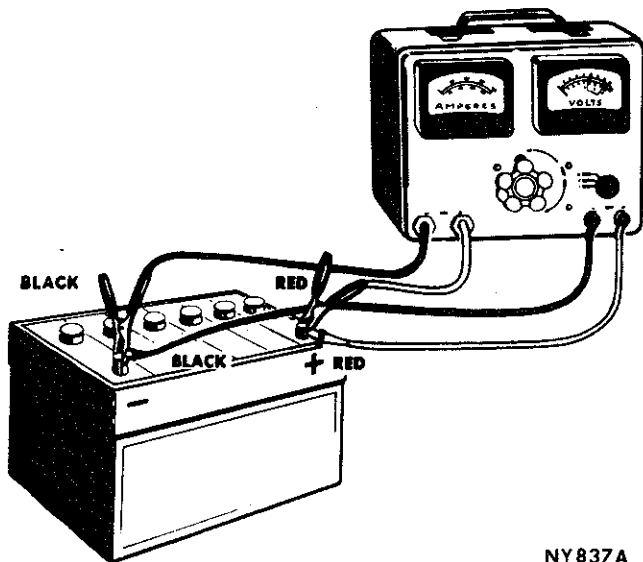

Fig. 4—High rate discharge test
(1) Turn control knob of Battery-Starter-Tester to **OFF** position.
(2) Turn Voltmeter Selector Switch to the **16 Volt** position on test units so equipped.
(3) Connect test ammeter and voltmeter positive leads to battery positive terminal. Connect ammeter and voltmeter negative leads to battery negative terminal (Fig. 4). **Voltmeter clips must contact battery posts or cable clamps and not ammeter lead clips.**
(4) Turn control knob clockwise until ammeter reading is equal to three times ampere hour rating of battery.
(5) Maintain this load for 15 seconds; voltmeter should read 9.5 volts or more, which will indicate that battery has good output capacity.
(6) After the 15 second test, turn Battery-Starter-Tester control knob to the **OFF** position.